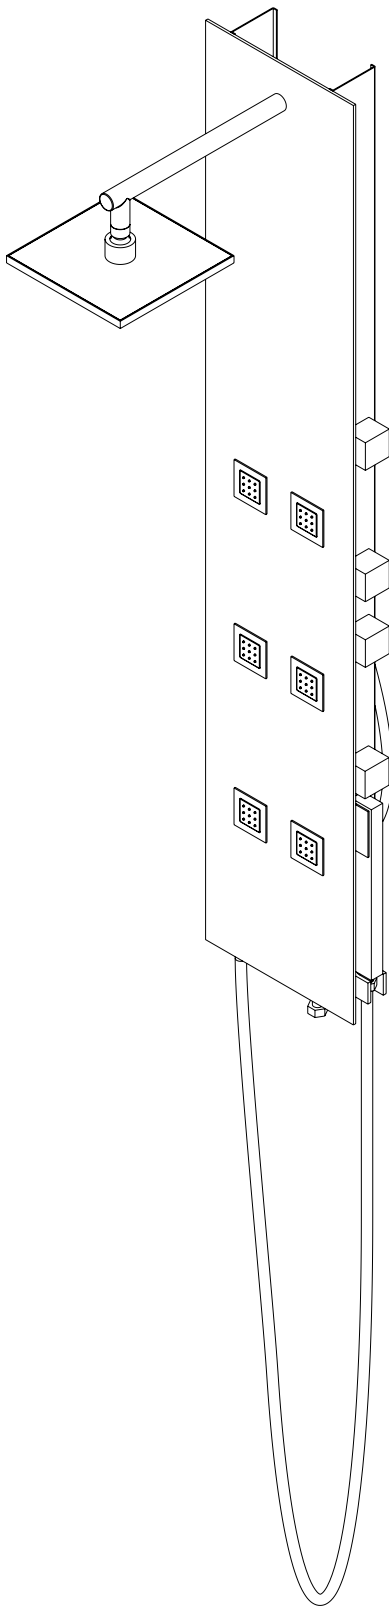

Fig 7
7. Use an assistant to hold the **Shower Panel Body (#01)**, attach the flexible supply lines in the rear of the unit to the copper stub-outs using thread seal tape. Do not overtighten. Hang the unit on the installed **Support Brackets (#02)**. Turn on the water supply and test the unit for leaks and functionality. **(Fig 7)**